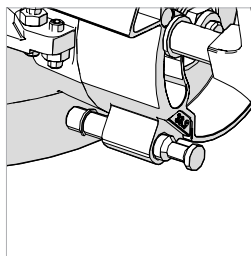

Fig. 45
Note: A positive stop is provided at 33.9° Bevel angle. This is accessed by deploying (pushing inwards) the 33.9° Bevel Pin. (**Fig. 45**) Normally the Bevel Pin should be left in the un-deployed (pulled out) position.
- Deploy the 33.9° Bevel Pin by pushing it fully inwards. (**Fig. 45**)